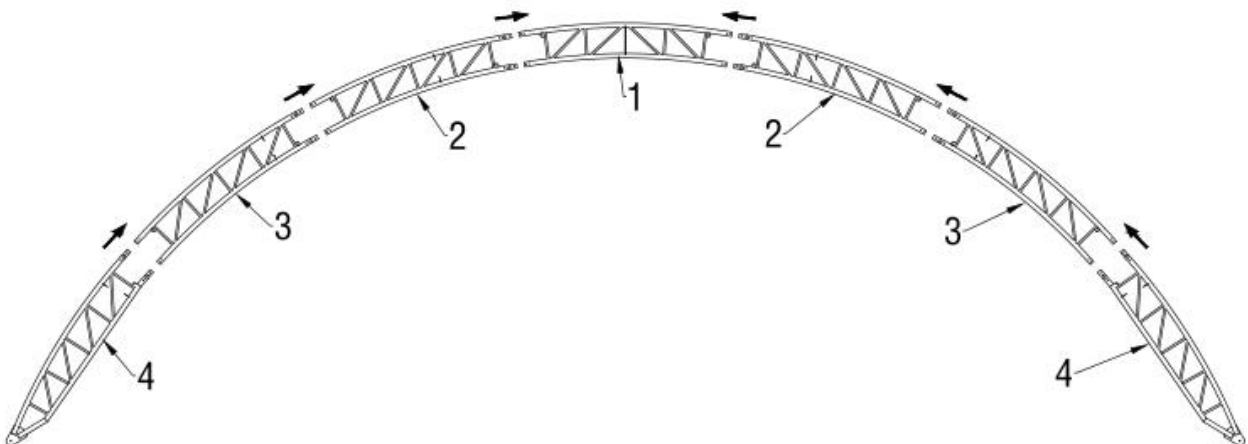

Figure 2
2.1 As Figure 2&3 shown to find one Roof Bent Tube, Middle Bent Tubes, Lower Bent Tubes and assemble these arches with Carriage bolt M8x80mm(Part no.U42) and Clamping Piece(Part no.14) to make the first arch group.